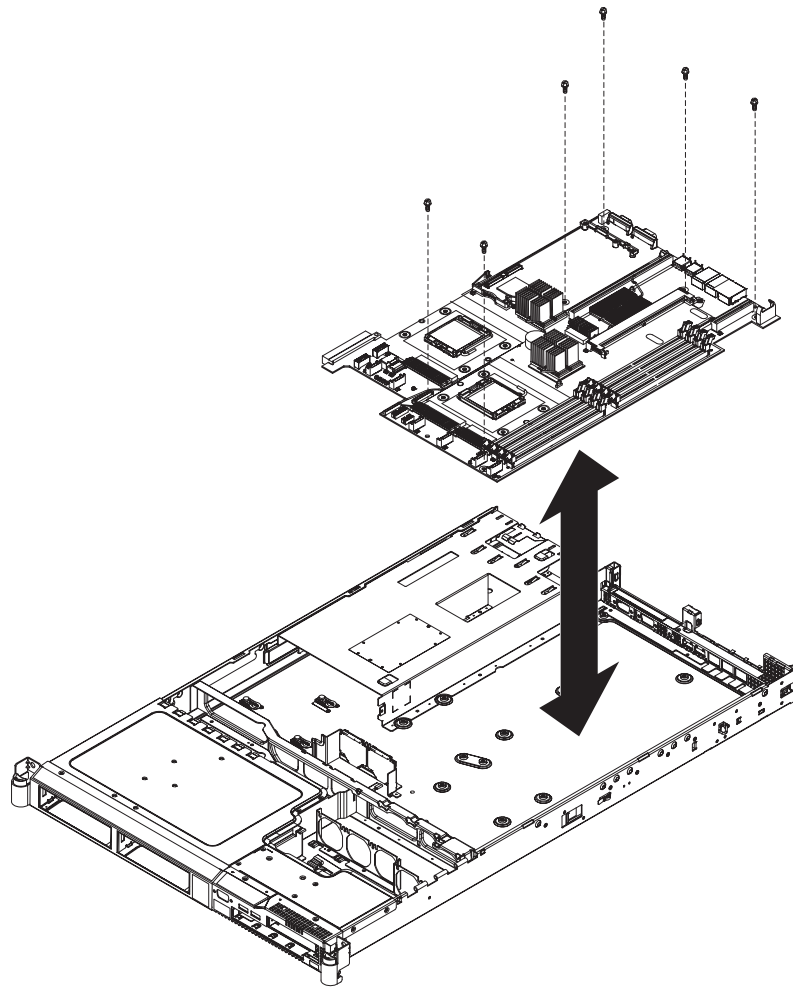

Figure 244. The placement of the screws that secure the SAN Volume Controller 2145-8G4 system board
2. Replace the six screws on the system board, as shown in Figure 244 on page 573, to secure the system board to the chassis.